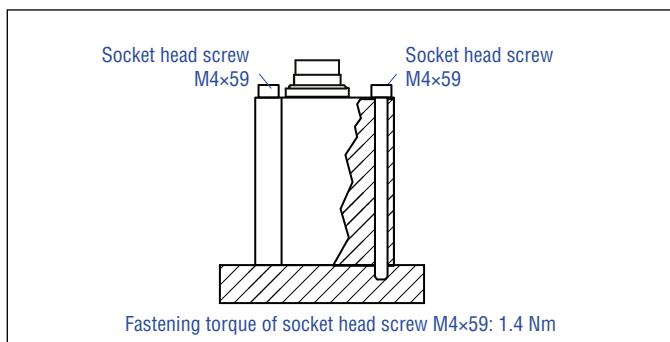

Fig. 15: Mounting with socket head screws M4x59
- Mount the sensor electronics housing by means of 3 non-magnetic socket head screws M4x59. Fastening torque: 1.4 Nm (Fig. 15). Secure the screws, e.g. using Loctite 243, before re-installing.